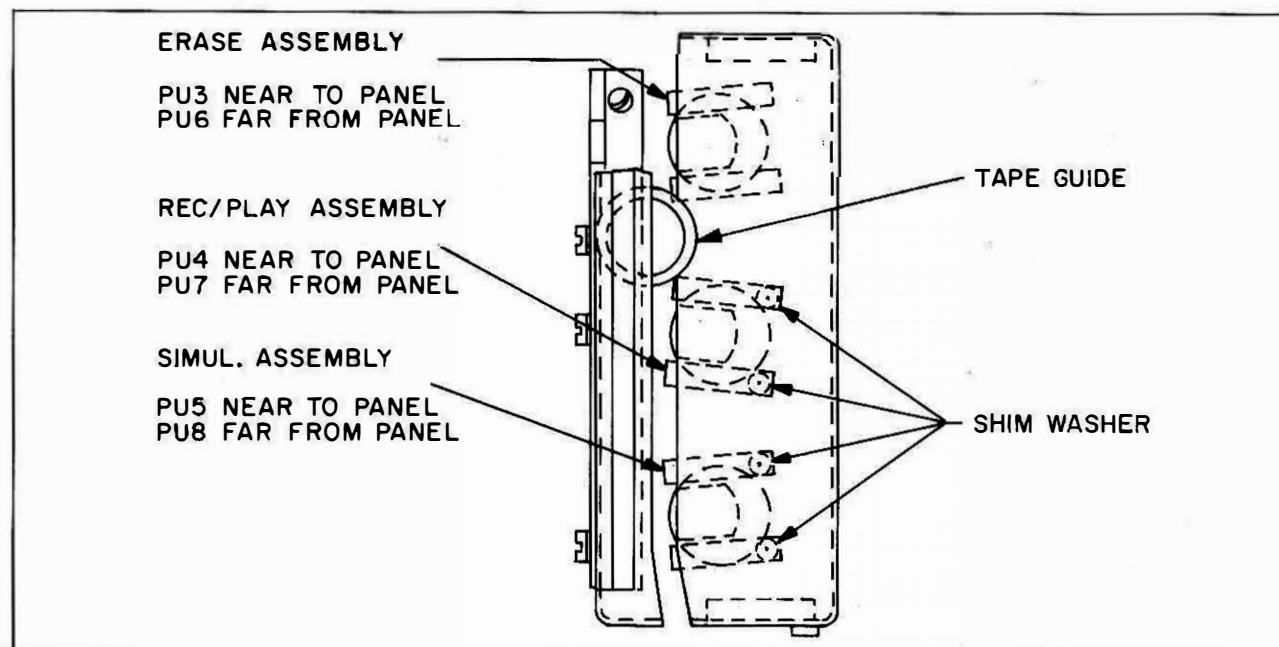

Figure TTP-15. Audio Heads
5. Install the new audio post assembly and replace the four socket-head screws and shims (if they are used) at the base of the post assembly, refer to figure TTP-15.